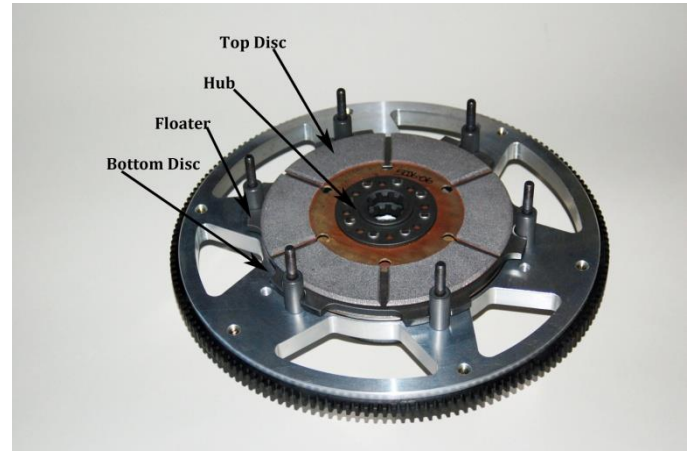

Figure 3
- 4) Note the hub positioning when removing the top disc. This side of the disc assembly must be toward the transmission. The flat side of the disc assembly with the large rivet heads must be toward the flywheel. See Figure 3.